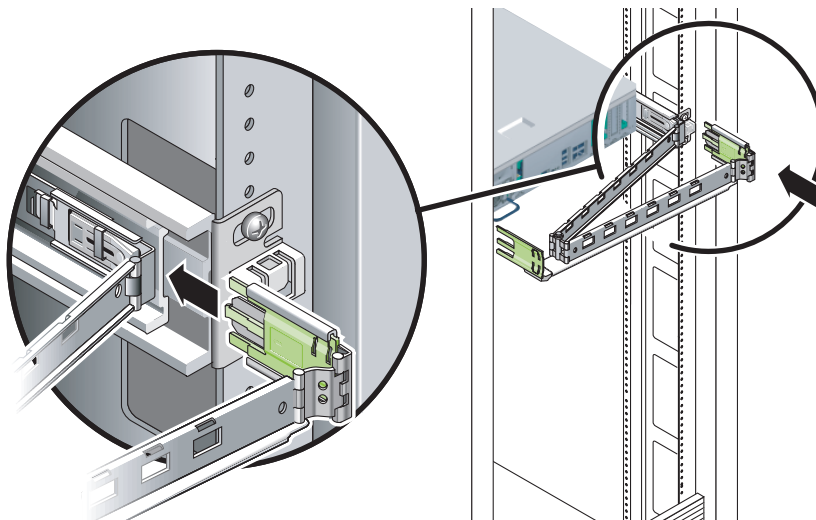

FIGURE 3-32 Attaching the Outer CMA Connector
3. Insert the larger extension into the end of the right rail (FIGURE 3-32).